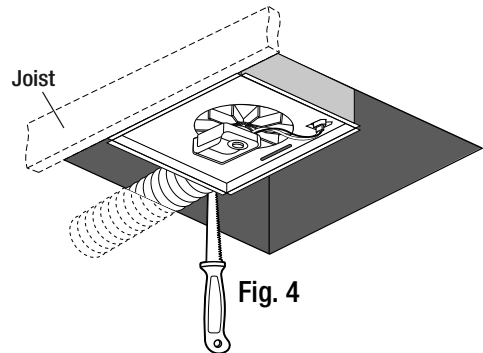

Fig. 4
- Cut the new opening in the ceiling using a drywall saw. Be careful not to damage the existing venting or electrical wiring. See figure 4.